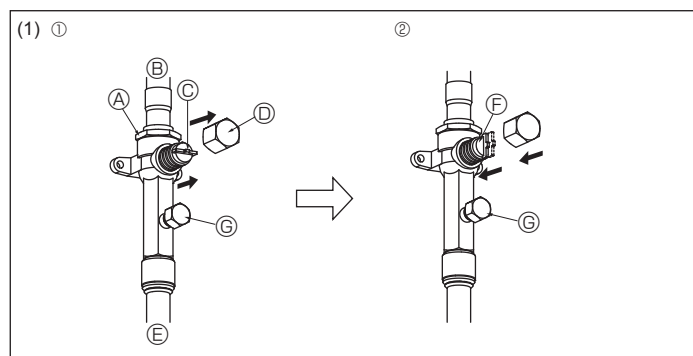
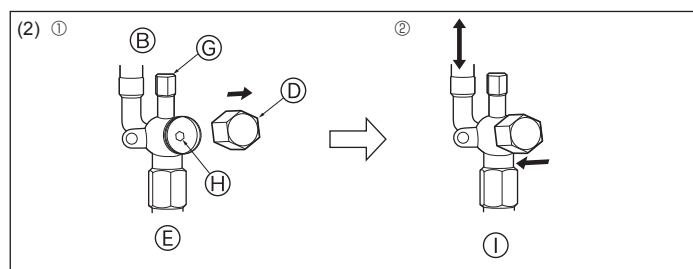

Fig. 4-12
Fig. 4-13
- (1) Gas side (Fig. 4-12)
- ① Remove the cap, pull the handle toward you and rotate 1/4 turn in a counterclockwise direction to open.
- ② Make sure that the stop valve is open completely, push in the handle and rotate the cap back to its original position.
- (2) Liquid side (Fig. 4-13)
- ① Remove the cap and turn the valve stem counterclockwise as far as it will go with the use of a 4 mm hexagonal wrench. Stop turning when it hits the stopper. (ø6.35: Approximately 4.5 revolutions) (ø9.52: Approximately 10 revolutions)